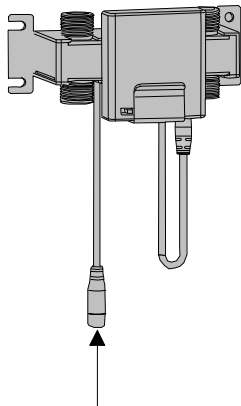

FIG. 2
2. Pass cable from the AG250-403 pedal through the 3/8" opening under the cabinet plate and connect it to the AG250-003 valve installed inside the cabinet. (FIG.2)